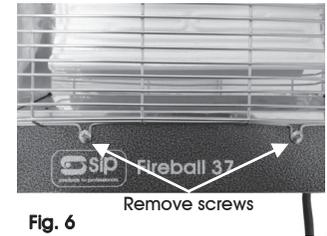

Fig. 6
1. Remove the safety guard on the front of the heater, by un-screwing the two screws, lifting up the guard and then pulling in a downwards direction (Fig.6)